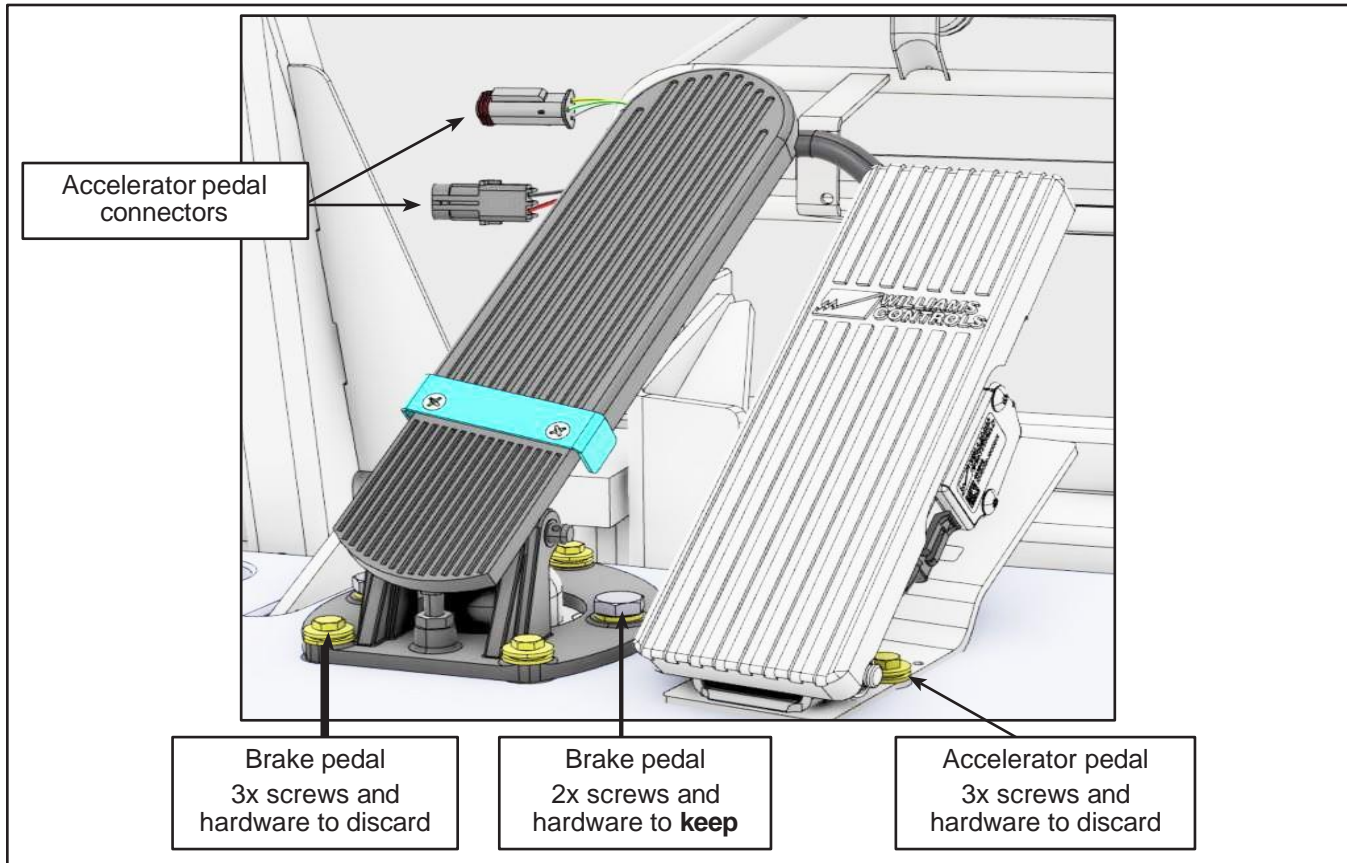

Figure 2 - Brake and Accelerator Pedals
- 1.6. Disconnect the accelerator pedal connectors from the vehicle electrical harness (Figure 2).